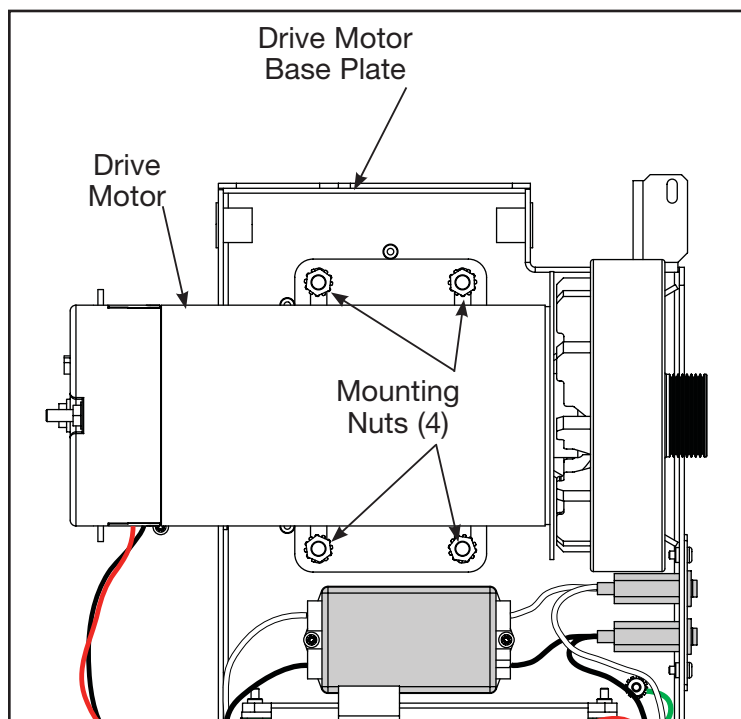

Figure 16
A. Using a 1/2" socket with a 6" extension remove the four mounting nuts securing the drive motor to the motor base plate. See Figure 16.